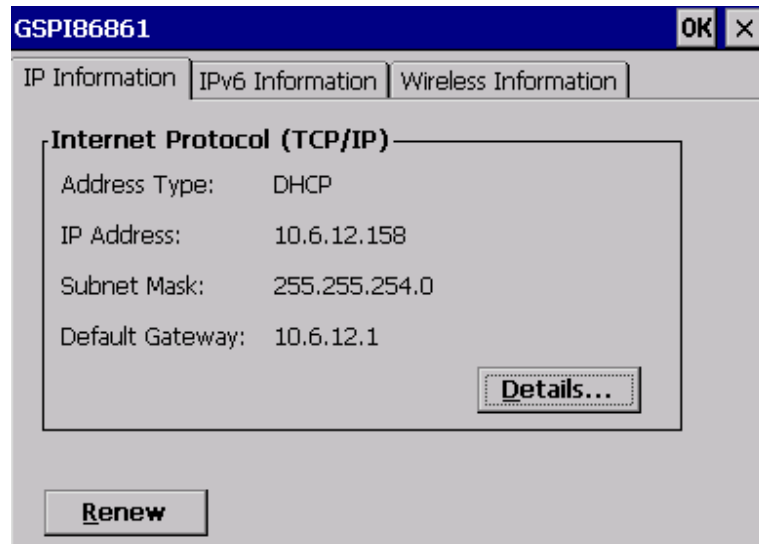

Figure 4-16: IP Information
Step 5: Click the IP Information button to view the information of the Wireless AP Solo.If the server function is enabled on the AP. You can automatically get the IP address, subnet mask. (Figure 4-16).